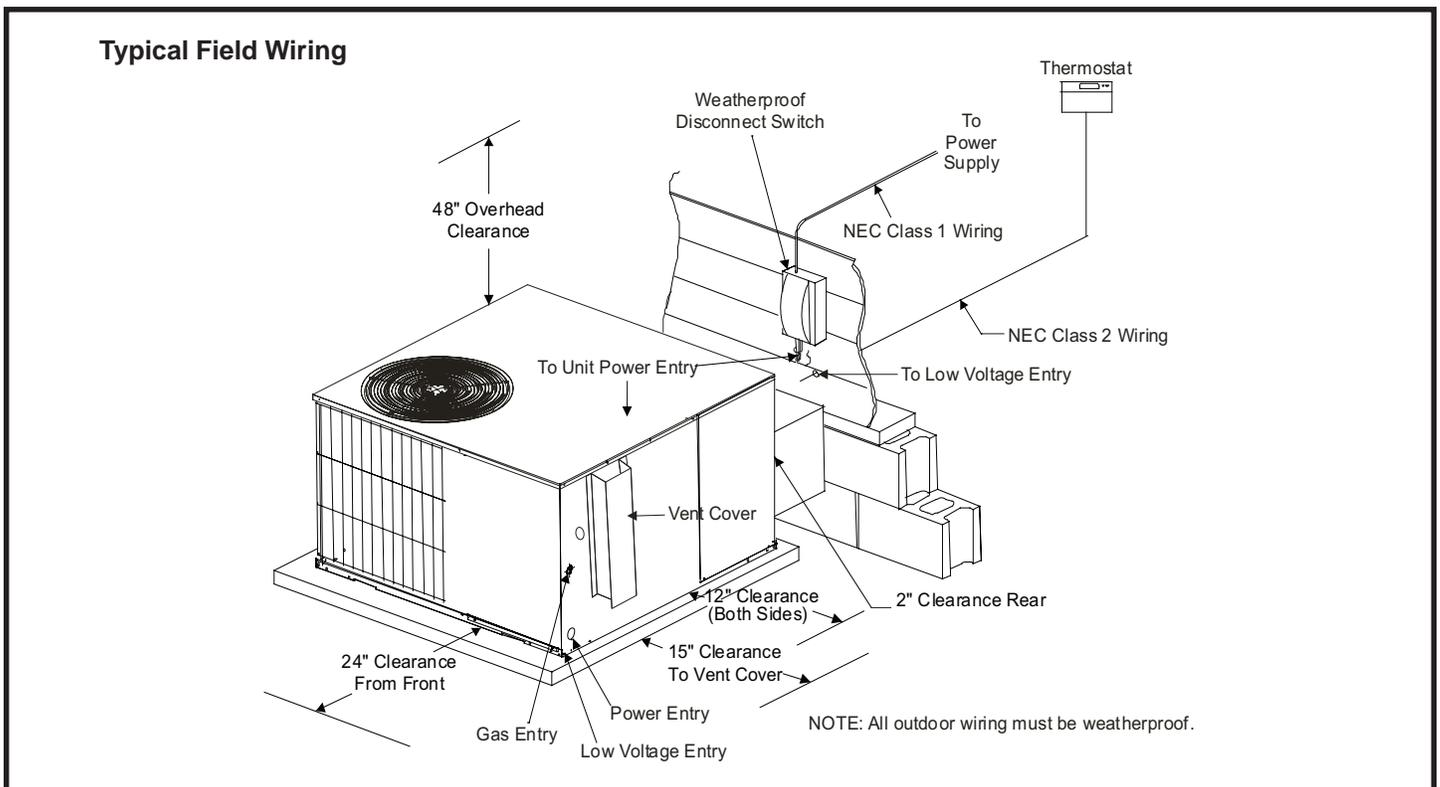

Figure 4
**Electrical Wiring (See Figures 4 & 5)**